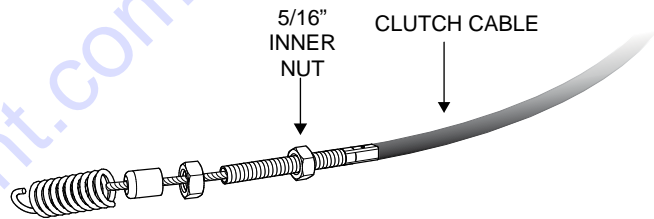

Figure 18. Inner Nut Adjustment
- Adjust the 5/16" inner nut (Figure 18) away from the threaded end on the clutch cable to the inner nut.